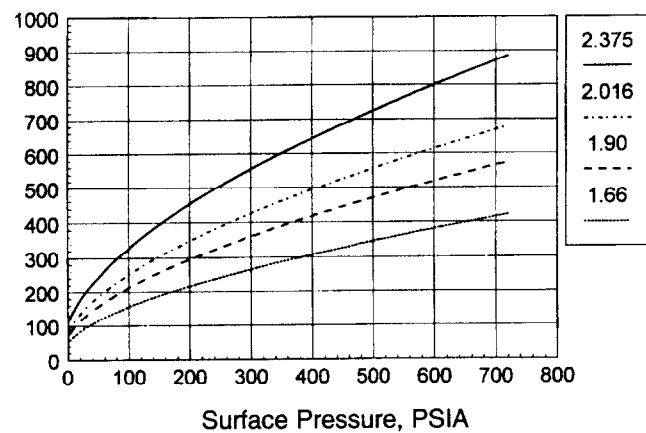

Figure 3 - Turner et al Unloading Rates for Various Tubing Sizes
Most gas wells produce some liquids, and at some time will experience liquid loading. As a gas well depletes, production rates fall. When gas velocity in the tubing falls below a minimum unloading velocity, liquids will accumulate in the wellbore. This accumulation builds a liquid column in the bottom of the tubing and increases flowing pressure (back-pressure). As shown in the IPR discussion, this will inhibit well production. The gas velocity at which liquids accumulate is predictable, and can be related to flowrates in various tubing sizes (9). Unloading curves show this relationship (**Figure 3**). Using these curves, an operator can determine whether a well may be in a loaded condition. Of additional importance is an understanding of the effect of surface flowing pressure on the minimum unloading rate. At lower surface flowing pressures a lower flowrate is required to keep a well unloaded. At higher flowing pressures, a higher flowrate is required. With this in mind, the goal for the operator in keeping a well unloaded is to operate at the lowest possible flowing pressure.
Choke Back Your Well to Keep From Loading Up. In most cases, choking back a well may prolong the amount of time a well will flow, but it will not prevent a well from loading and it will limit gas production. Well loading is controlled by gas velocity; gas velocity is proportional to flowing tubing pressure. **Figure 3** shows the relationship between flowing tubing pressure and minimum unloading rates. As you increase the flowing tubing pressure (choke back the well), it takes an increasing amount of gas rate (gas velocity per flow area) to keep the well unloaded. Turner, Hubbard, and Dukler (9) showed that this is due to gas expansion and the fact that a given mcf/d (or flow rate) of gas takes up more space at lower pressures. At lower flowing pressures, expanded gas flows at a higher velocity for a given flow rate. At lower pressures, less flow rate is required to keep velocity in the tubing above the minimum unloading velocity.
It is interesting to note that most operators will agree that blowing a well to atmosphere can help unload liquids, but many may still operate a well against a choke to prolong well production. Blowing a well to atmosphere unloads liquids by reducing wellhead pressure to 0 psig. The unloading rate required to move liquids is at its minimum when flowing against a wellhead pressure of 0 psig. This can be seen in **Figure 3**. One additional point about choking back a well: flowing a well against a choke may prolong the time a well will flow before loading, but the volume will still be less than if the well was opened completely from the beginning.